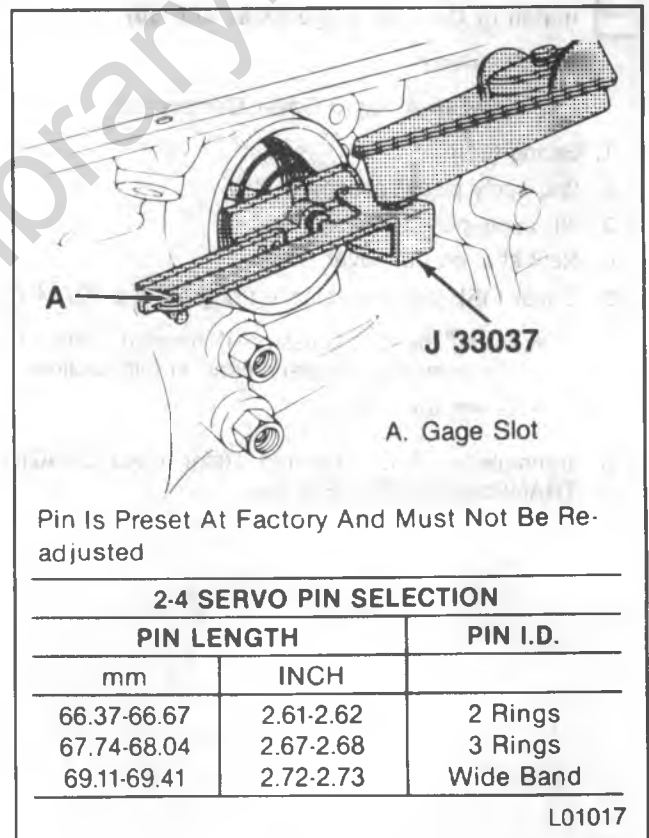
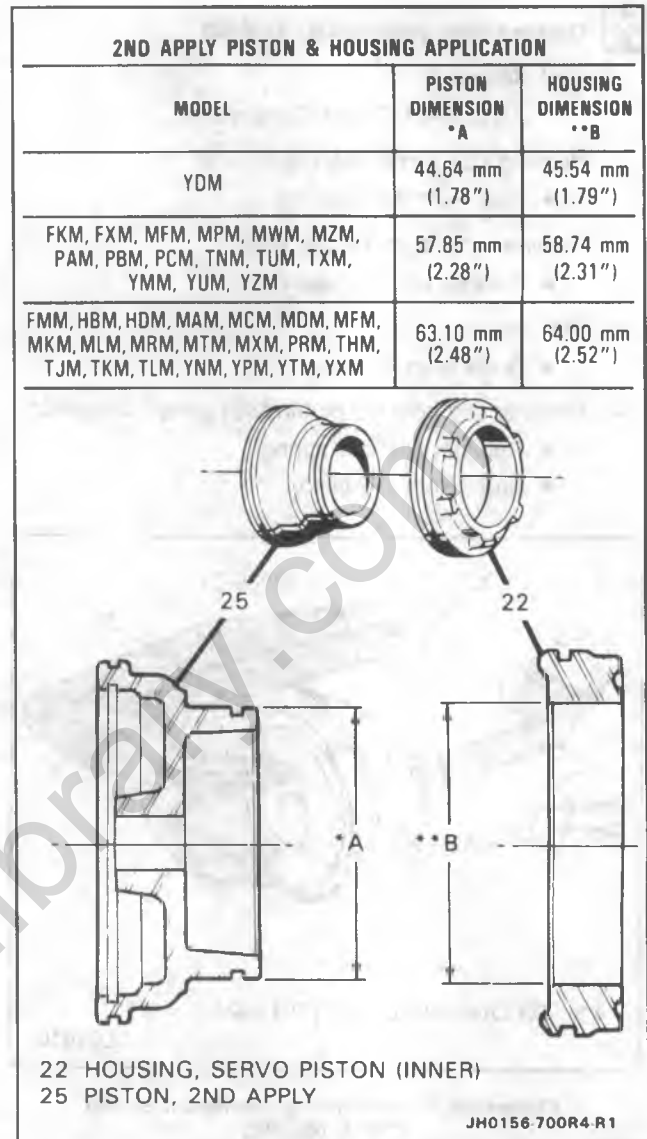

Figure 69—Measuring the Servo Pin Length
Figure 70—2nd Apply Piston and Housing Dimensions
Measure (Figures 69 and 70)
1. Servo pin length (figure 69).
- Apply 11.0 N•m (97 in. lbs.) torque and check the gage slot (A).
2. Piston and housing dimension (figure 70).
- Measure the piston dimension (C).
- Measure the housing dimension (D).